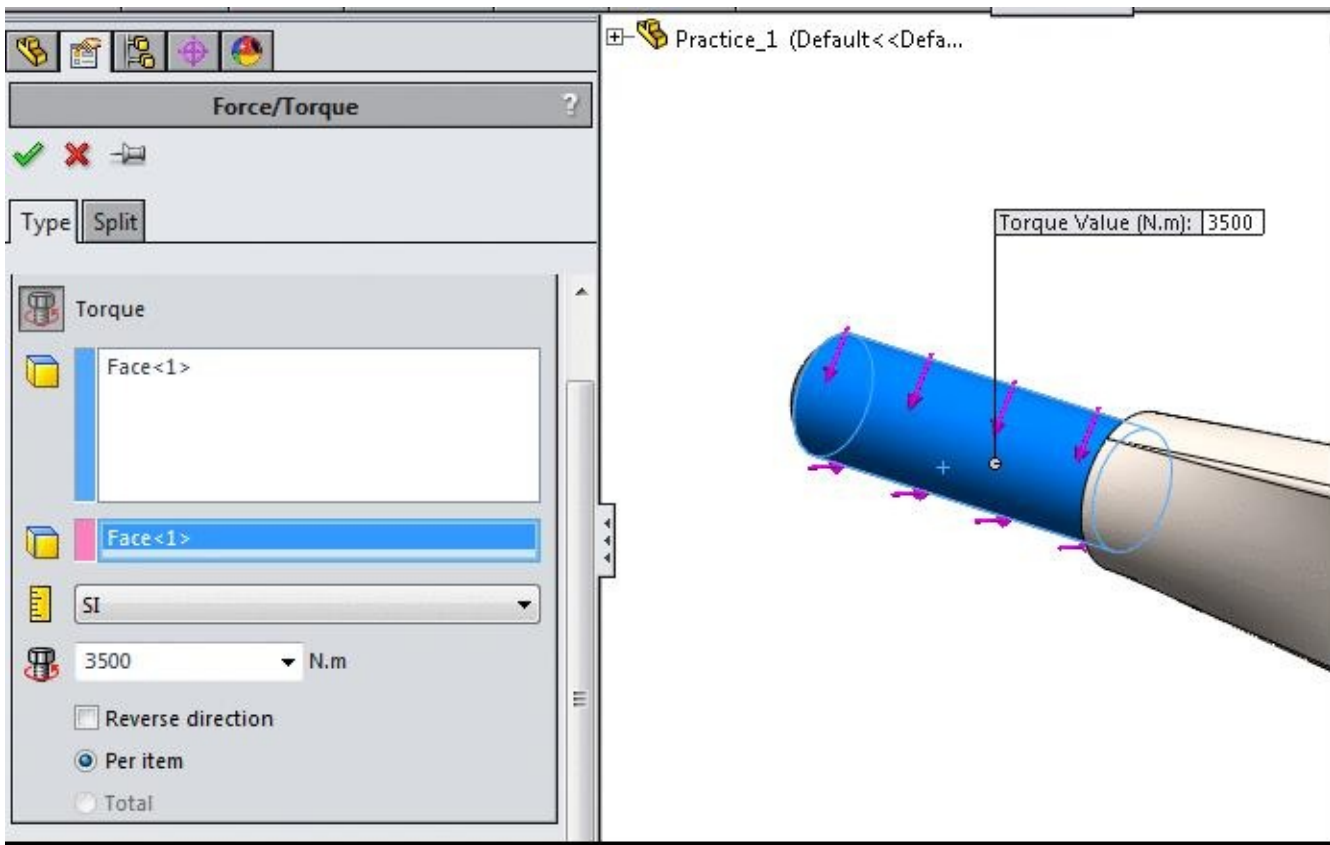

Figure-17. Torque value specified
- Select the round face of the model and specify the torque value as shown in Figure-17.